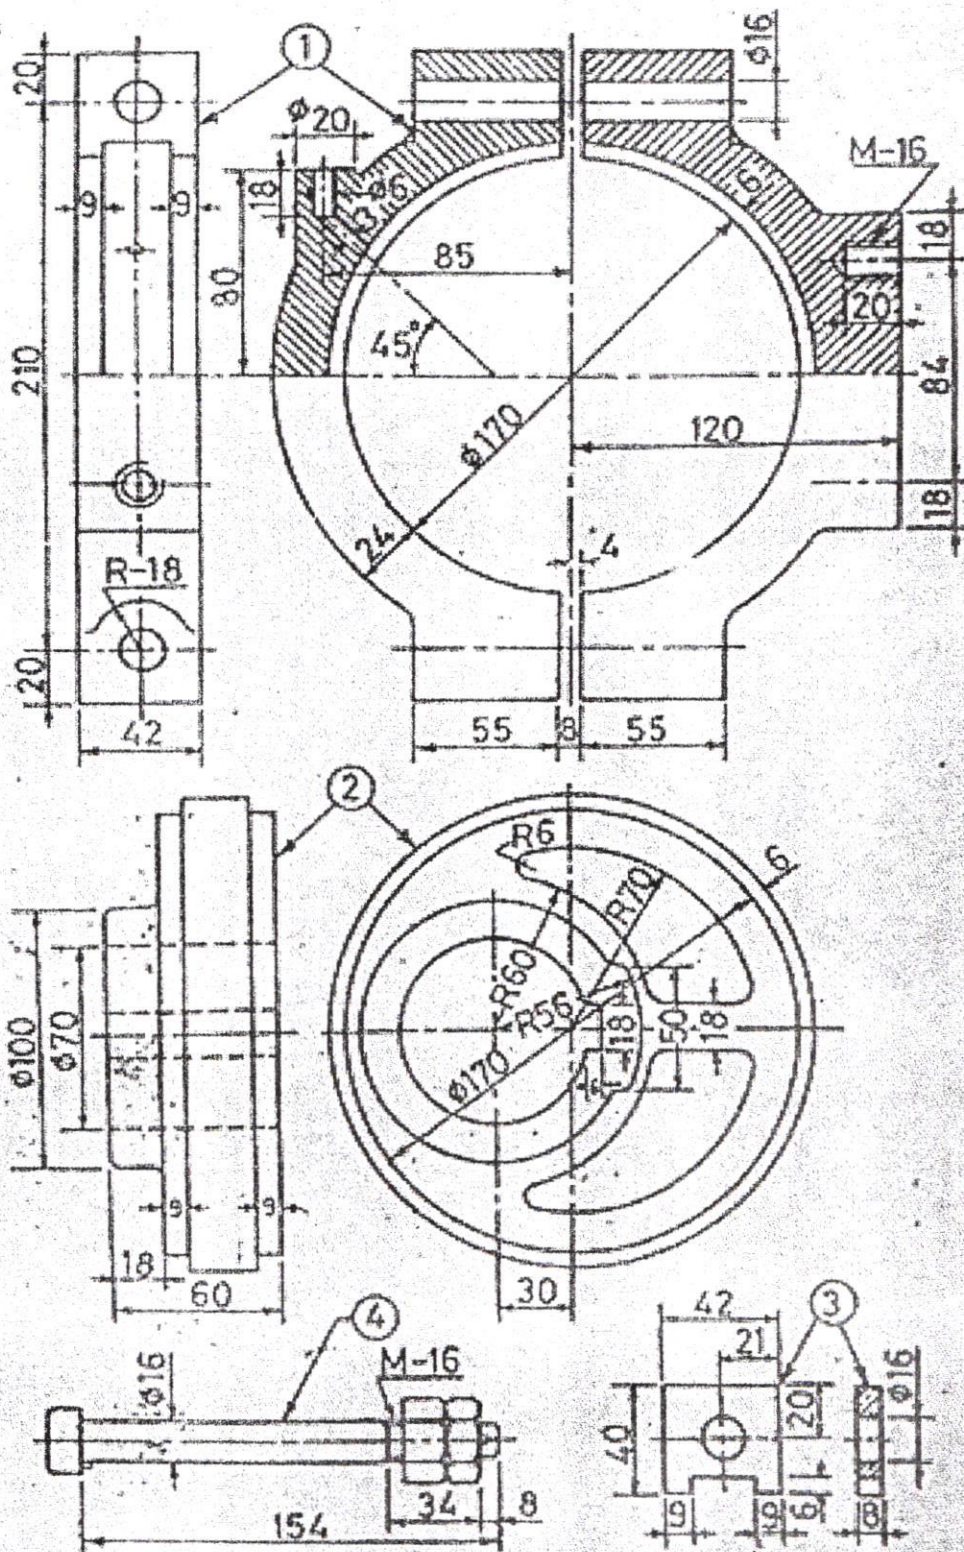

Fig.2
11. Assemble the parts of an eccentric shown in Fig.2 below and draw the Half-sectional front view with upper half in section and right side view. Table1 below gives the details of the parts. 40